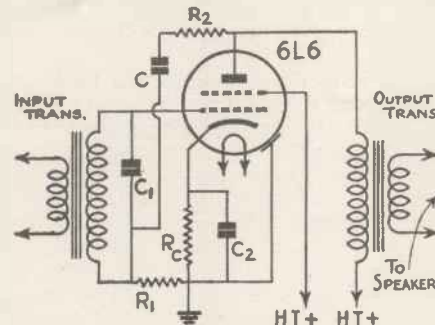

Fig. 4a. Inverse feed back for a single valve.
The circuits of a practical single valve and of a push-pull amplifier using partial inverse feedback to reduce the internal impedance of the valve are shown in Figs. 4a and 4b, respectively. Resistors (R_1) and (R_2) and condenser (C) are connected in series; the combination is connected from the anode of each valve to ground. Nearly all the a-c voltage developed across the load appears across R_1 and R_2 , when the capacitance of C is high. Of this voltage, that due to $R_1(R_1 + R_2)$ is applied in series with the input-signal voltage; this ratio is defined as the percentage degeneration (n). With any percentage degeneration, the valve acts as though shunted by resistance $1/(n g_m)$ where g_m is the transconductance of the
cuits of Figs. 4a and 4b offer certain advantages, the following precautions should be observed in the design and use of these circuits in order to avoid the possibility of instability, oscillation, or a marked divergence from expected results.
(1) A conventional resistance-coupled input circuit cannot be used with this type of degenerative circuit, because the input-signal voltage must be in series with the feedback voltage for proper operation.
(2) It may be desirable to connect small fixed condensers (c_1) across each secondary of the input transformer in order to avoid the possibility of oscillation due to leakage inductance and shunt capacitance in the input transformer circuit. It is advisable to determine by test whether or not these condensers are necessary.
(3) The blocking condensers (C in Figs. 4a and 4b) should be placed between R_1 and R_2 as shown. When placed between R_2 and anode, the cir-
VALUES FOR FIGS. 4a AND 4b.